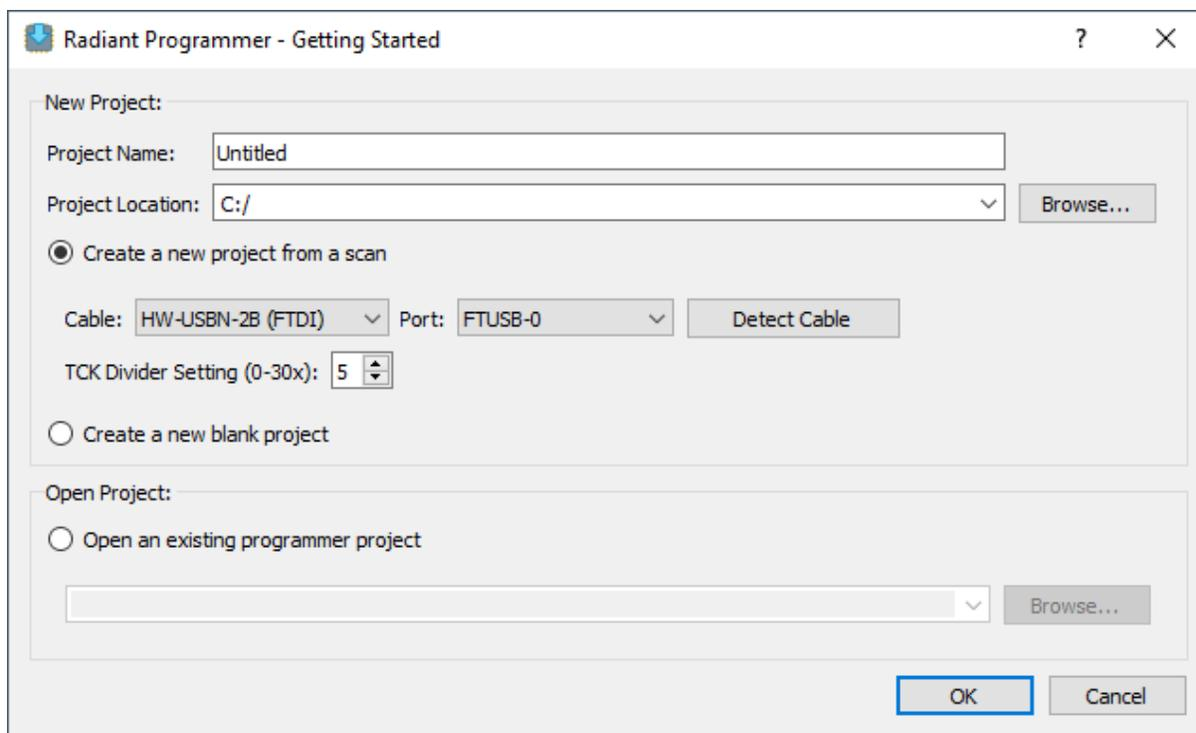

Figure 5.1. Radiant Programmer – Getting Started Window
3. **Radiant Programmer – Getting Started** window opens (Figure 5.1).